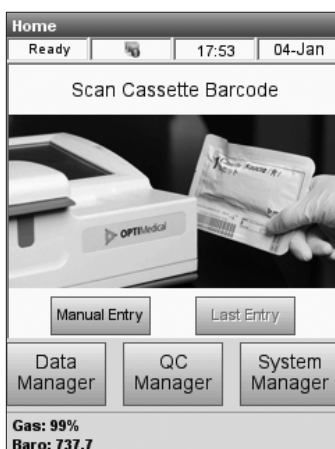

Fig. 2-14 Scan Bar Code
- In the **<Ready>** display, scan the bottom bar code on the calibrator cassette package by holding it 2-3 inches (5-8 cm) from the bar code scanner located on the bottom right-hand corner of the analyzer (Fig. 2-14).